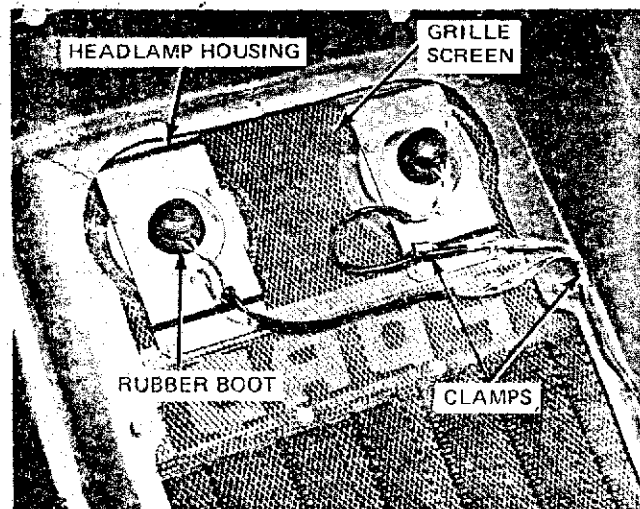

Figure 47 — Headlamp Assembly
2. Remove three nuts securing the headlamp housing to the bracket mounted on the grille screen, Figure 47.